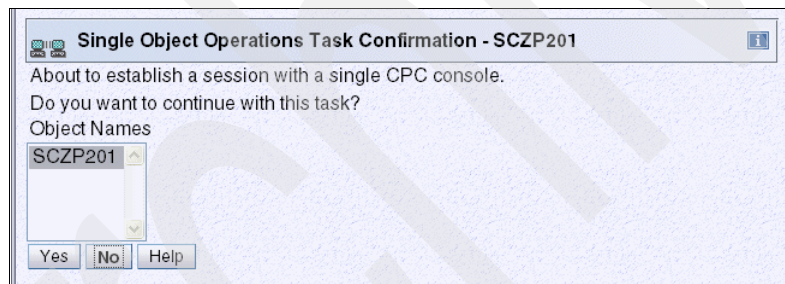

Figure 8-3 Single Object Operations Task Confirmation
3. When you use the Support Element, locate and click the **Single Object Operations** task from the Recovery section. You can log in after you respond to the confirmation panel, shown in Figure 8-3 on page 341.